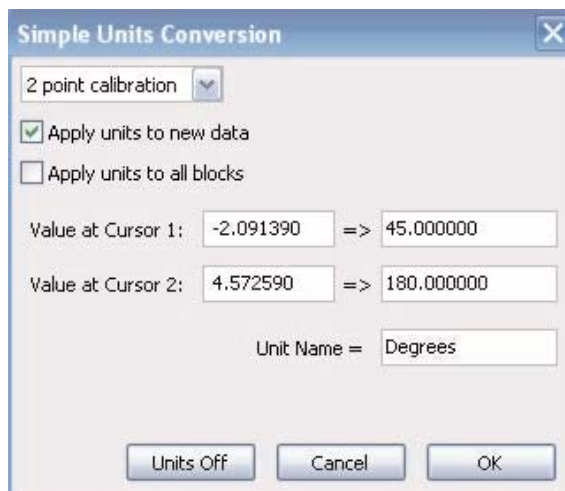

Figure 4: The Simple Units Conversion dialogue window with the voltages at the cursors set to equal the closed and open angles of the GN-100 goniometer.
6. On the **Simple Units Conversion dialogue window** (Figure 4), make sure **2 point calibration** is selected in the pull-down menu in the upper left corner of the window. Put check marks in the boxes next to **Apply Units** to new data and **Apply Units to all blocks**.